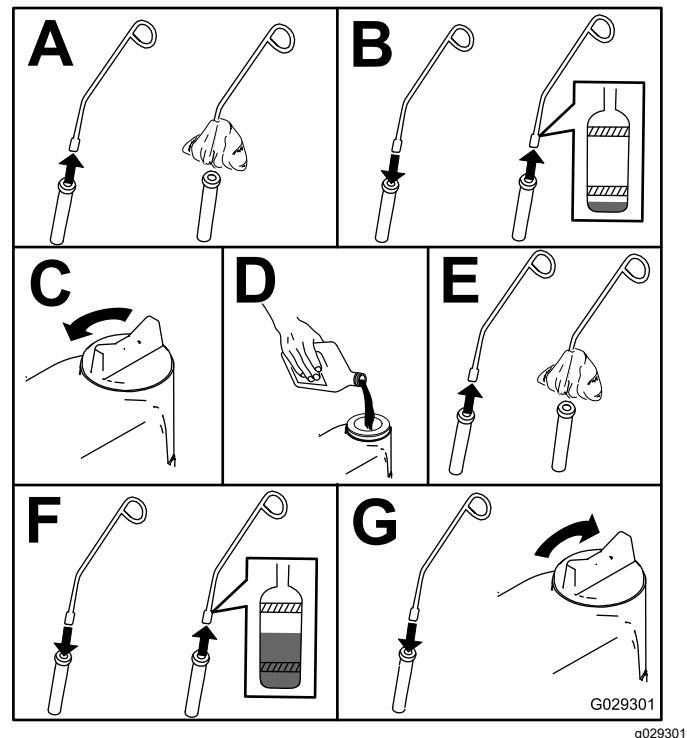

Figure 40
3. Check the engine-oil level as shown in Figure 40.